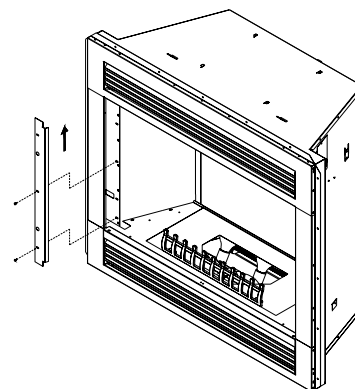

Figure 17 - Removing Face Extensions
4. Remove the two screws holding each face extension to the firebox. Then pull up and lift out of the positioning slot at the bottom of the hearth pan (see **Figure 17**).